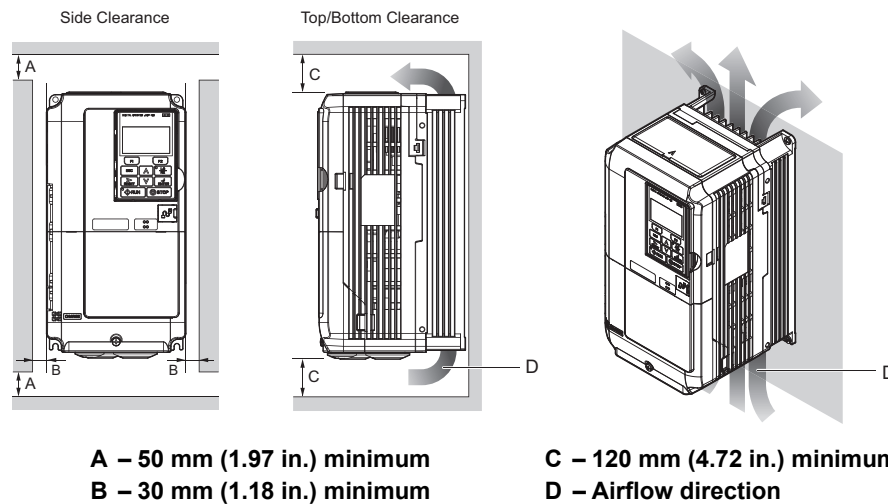

Figure 2.2 Correct Installation Spacing
*Figure 2.2* shows the installation distance required to maintain sufficient space for airflow and wiring.